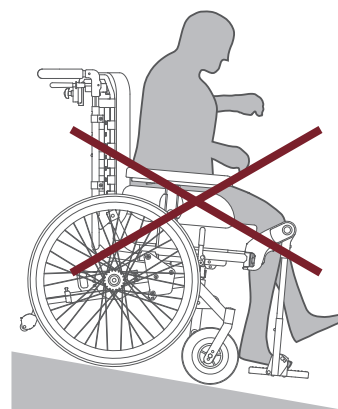

Figure 39. Sloped surface
- When driving down a slope ensure that the user cannot slide out of the wheelchair (Figure 39).